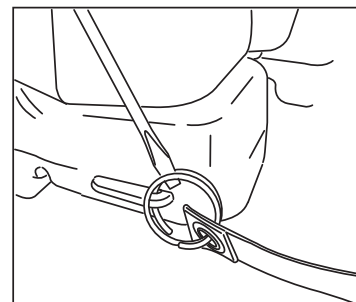

Figure 4.
4. Use a flat blade screwdriver to spread the rings on the end of the shoulder straps. Insert the rings into the holes on the tank base tabs. Turn the ring until it is completely through the holes. Make sure the straps are not twisted. **See Figure 4.**